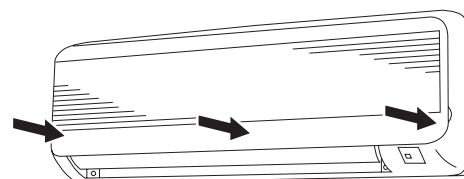

Fig. 3-29b
- (3) Press at each of the 5 tabs to completely close the grille. Make sure that the grille and frame are firmly fitted together. (Fig. 3-29b)